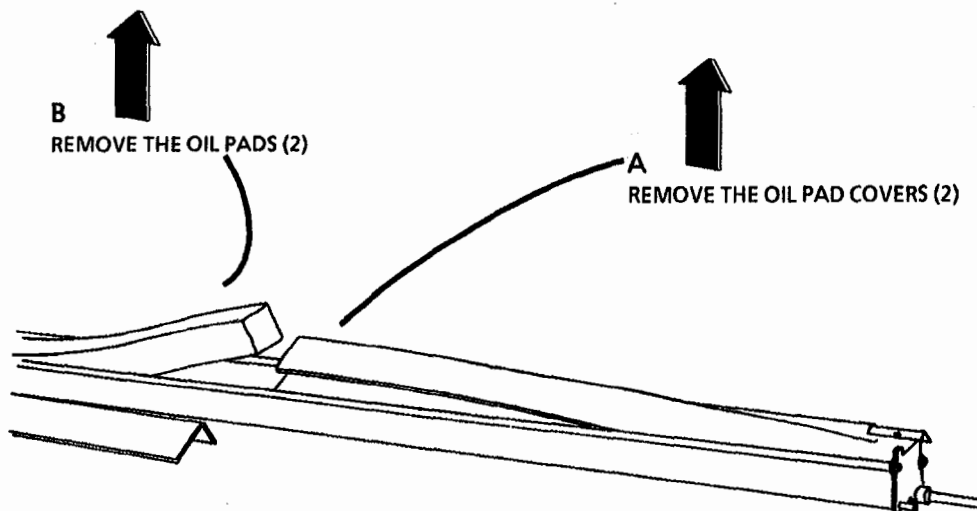

Figure 1. Remove the Oil Pads
3. (Figure 1): Remove the Oil Pads.